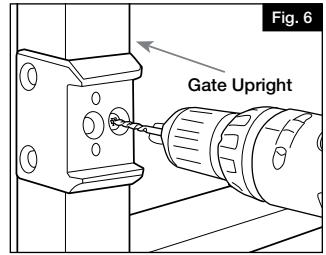

Fig. 6
- b. Place the gate plates firmly against gate upright/rail between the lines you marked from Step 4, Figure 4. Drill two pilot holes through the screw holes in the front of each gate plate with a 3/32" bit (Fig 6).